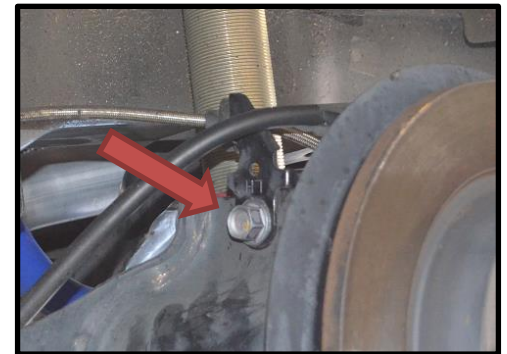
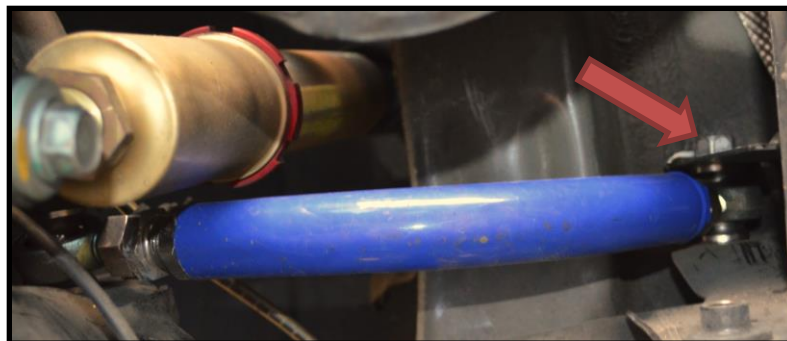

Figure 2e
Figure 2f
- d) **Replace bolts that were removed in step 1d.** Tighten them to 57-75ft.lbs (shown in Figure 2e and Figure 2f).
- d) **Replace bolts that were removed in step 1d.** Tighten them to 57-75ft.lbs (shown in **Figure 2e** and **Figure 2f**).